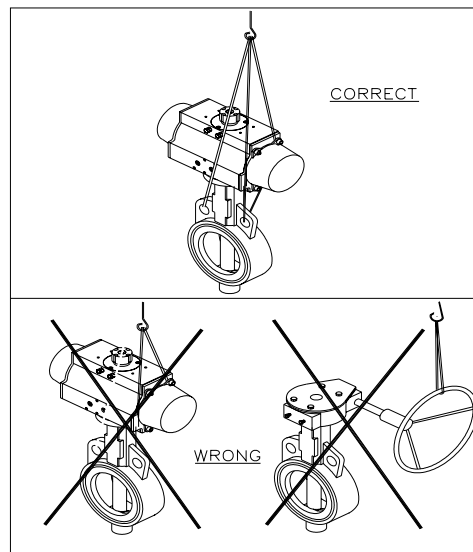

Fig 1.2 Lifting of the Valve
- 4.5 Lever or hand wheel of gear operator for respective valves are packed loosely and kept in the same box, in which the valve is packed (wherever applicable). When handling the valve either by hand or by mechanical means, special care should be taken not to damage the lever or gear operator. Lift the valve only as shown in fig 1.2. Lifting the valve from any other location may damage the valve components.